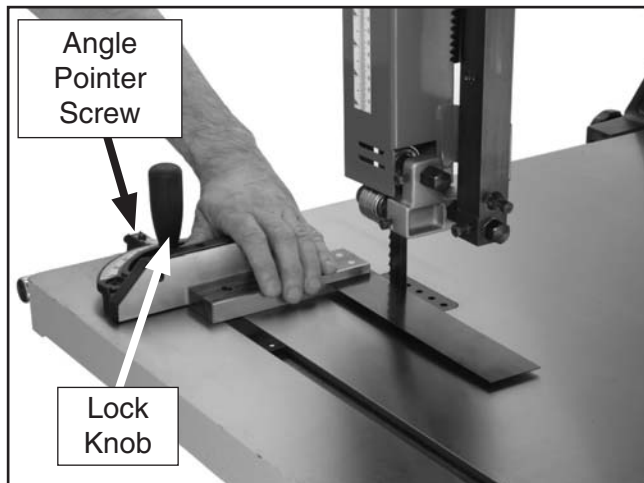

Figure 34. Example of squaring miter gauge to blade.
1. Place one edge of a machinist's square against the face of the miter gauge and the other against the blade face as shown in **Figure 34**.